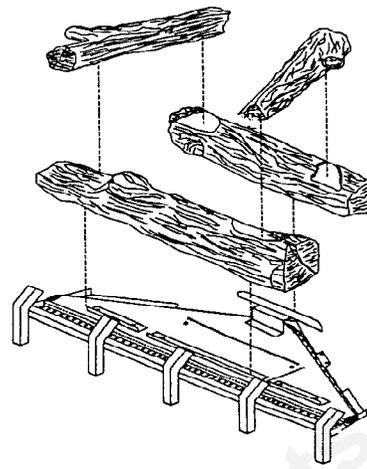

Figure 48 - Log Set (4 Pieces)
4. Carefully place the log set as shown in Figure 48. Be careful not to alter the pilot or burner location.